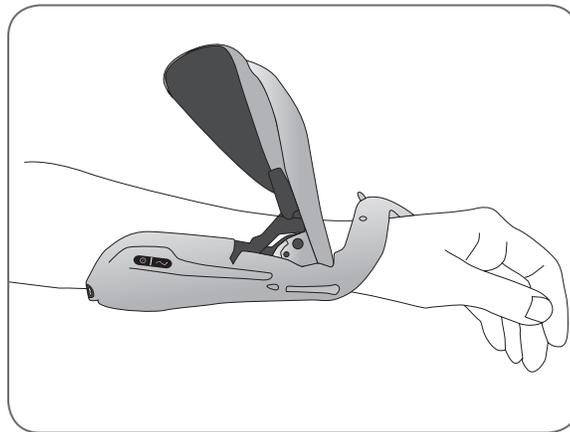

Figure 6-9: Positioning the flexor support.
2. Bring the Orthosis around the forearm, and position the flexor support on the forearm. See Figure 6-9.